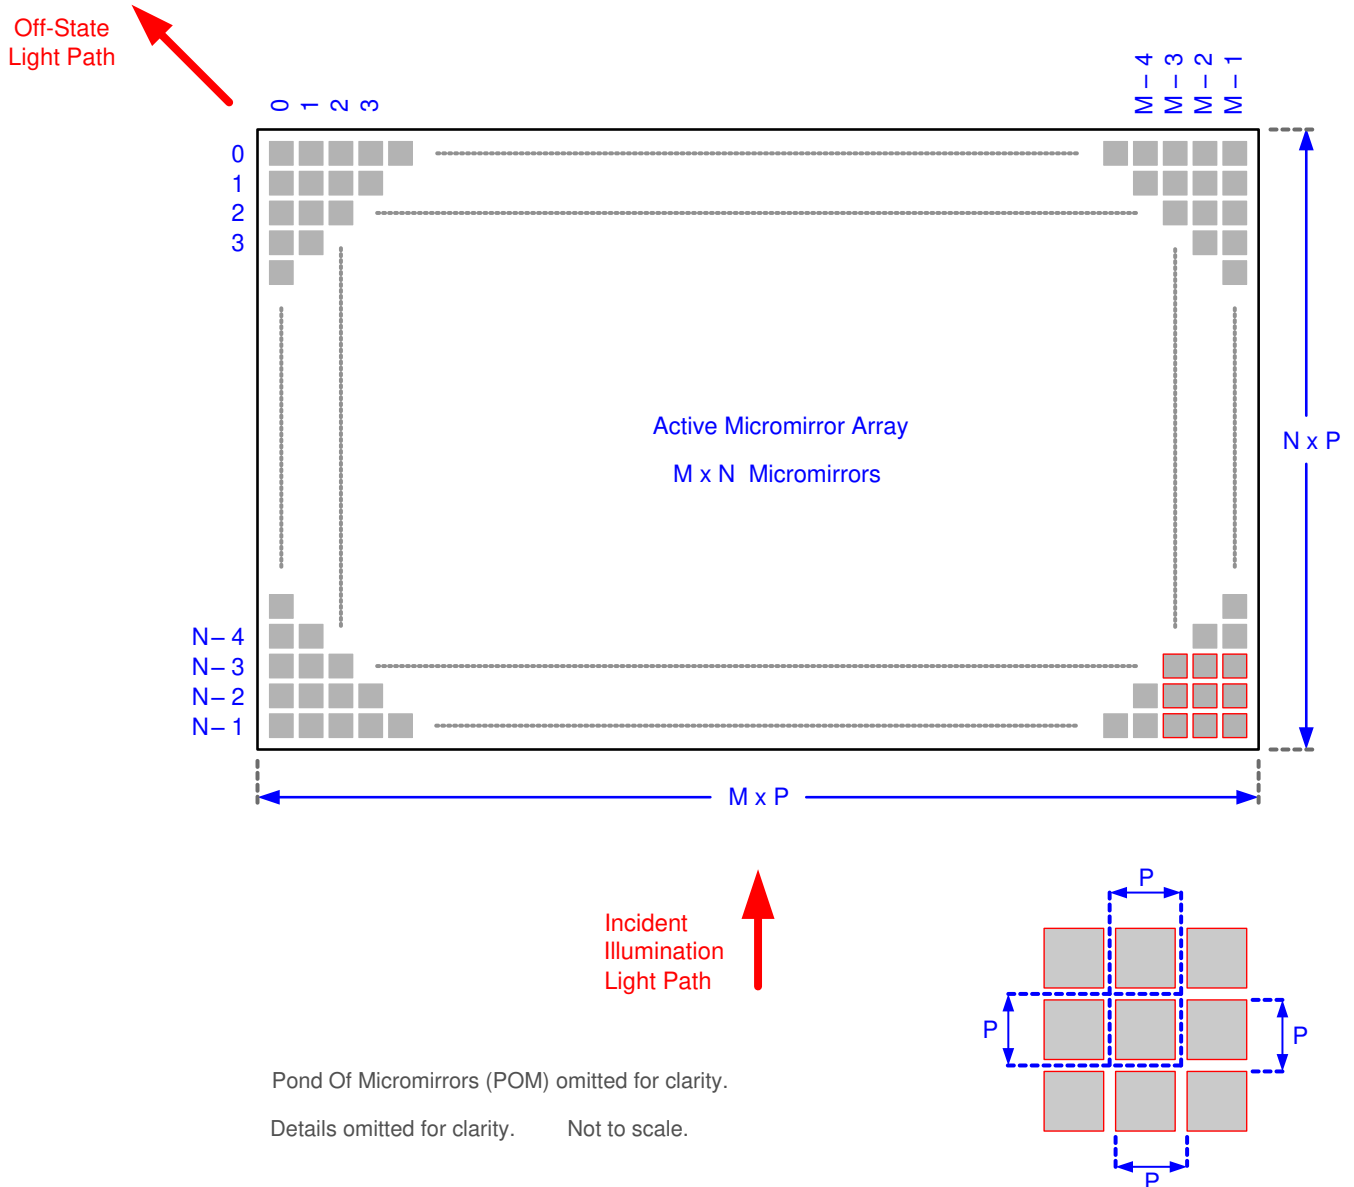

Figure 6-8. Micromirror Array Physical Characteristics
(1) See Figure 6-8.
(2) The structure and qualities of the border around the active array includes a band of partially functional micromirrors referred to as the pond of micromirrors (POM). These micromirrors are prevented from tilting toward the bright or "on" state but still require an electrical bias to tilt toward "off."